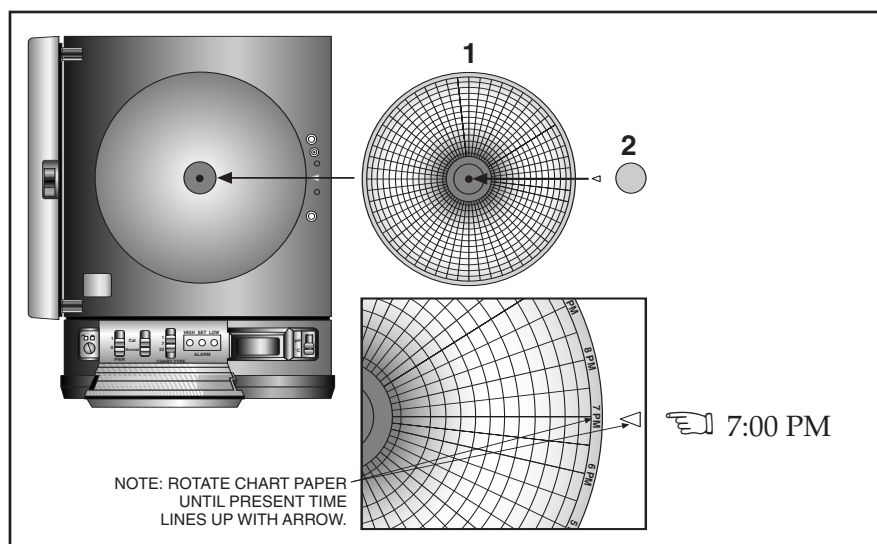

Figure 2-9. Changing Chart Paper and Setting the Time
3. Remove the magnetic chart paper knob (Figure 2-9, item #2) and used chart paper.
4. Place the new chart paper (Figure 2-9, item #1) on the spindle and rotate it until the current time on the chart paper is aligned with the time arrow on the chart base of the recorder. See Figure 2-9 detail.
5. When the chart paper is correctly oriented, replace the magnetic knob (Figure 2-9, item #2), being careful not to alter the position of the chart paper.